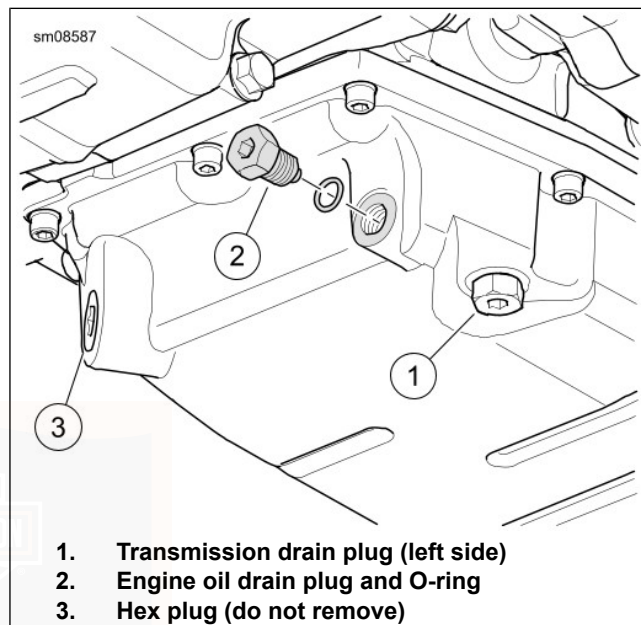

Figure 48. Oil Pan
3. See Figure 48. Remove the oil drain plug (2) and O-ring. Allow oil to drain completely.